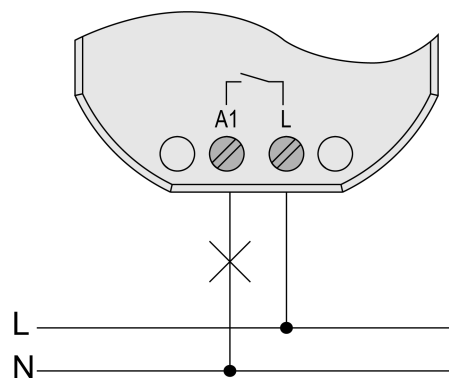

Figure 5: Connection of load
- Connect load as shown in the connection example (see figure 5).